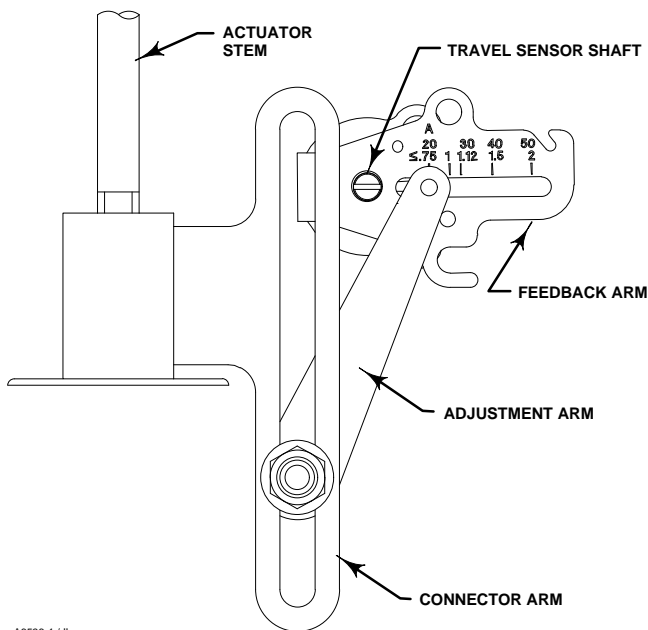
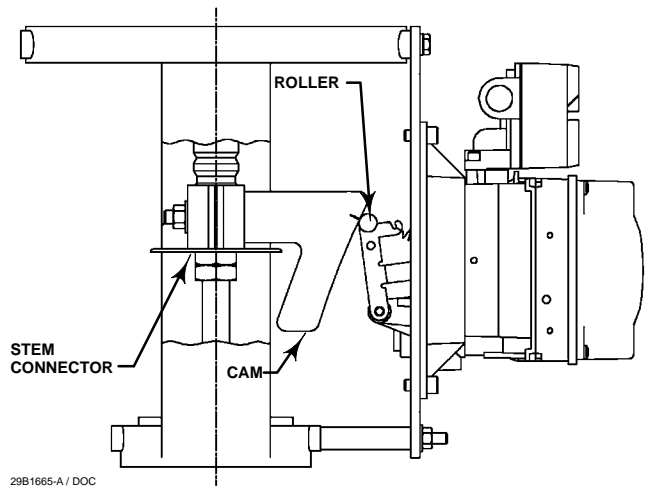

Figure 3-1. Feedback Connection for Typical Sliding-Stem Actuator (Up to 4 inch Travel)
Figure 3-2. Feedback Connection for Typical Long-Stroke Sliding-Stem Actuator (4 to 24 Inches Travel)
- **Feedback Connection**—Select RShaft Pot, SStem Roller Pot, or SStem Pot. For rotary valves, enter RShaft Pot. For sliding-stem valves, if the feedback linkage consists of a connector arm, adjustment arm, and feedback arm, similar to the linkage shown in figure 3-1, enter SStem Pot. If the feedback linkage consists of a roller that follows a cam, similar to the linkage shown in figure 3-2, enter SStem Roller Pot.